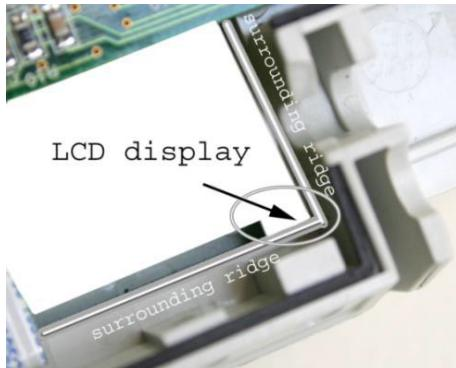

Figure 6-27. LCD Display Level with Surrounding Ridge
- b. Check that the LCD display is seated properly within the surrounding plastic confinement and not on top of it. Make sure that the LCD display's plastic corner is level with the surrounding ridge (see Figure 6-27).